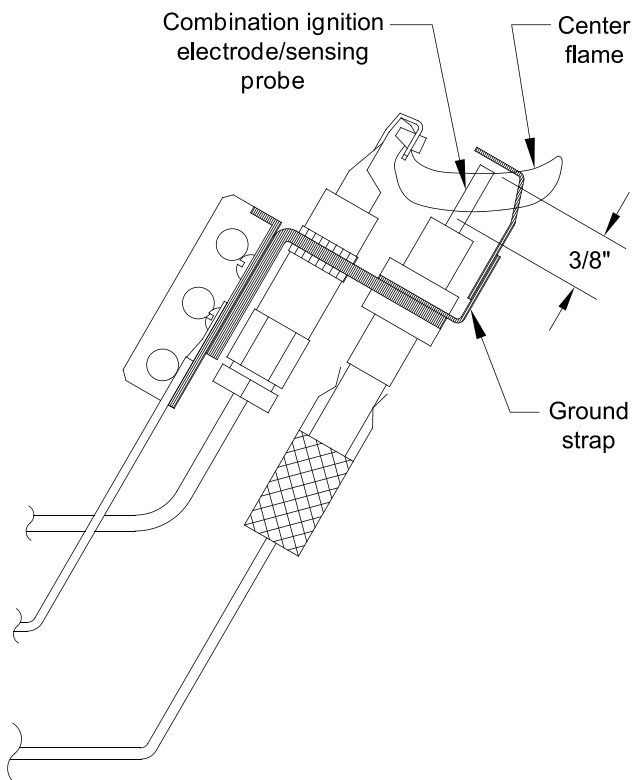

Figure 7-2: Honeywell Q3481B Pilot Flame
- Check pilot flame. Refer to Figure 7-2 for pilot detail.